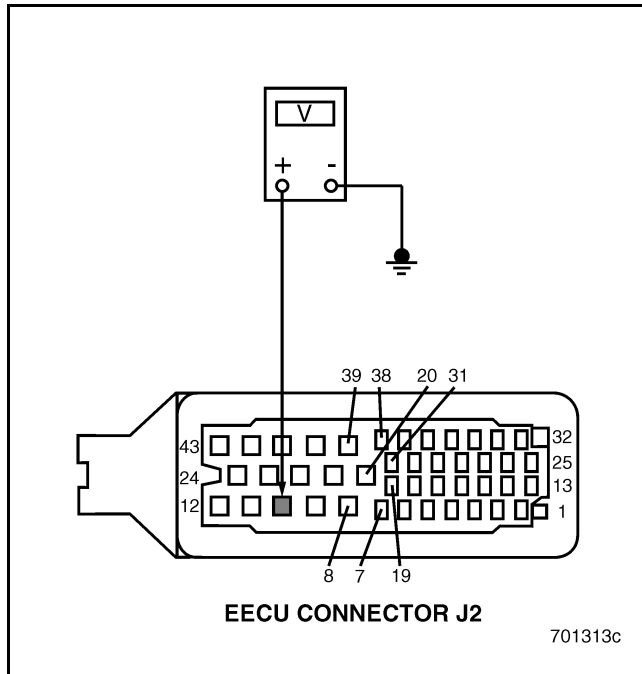

Figure 672
5. Measure the voltage between the EECU connector J2 pin 10 and a good ground (see Figure 672).